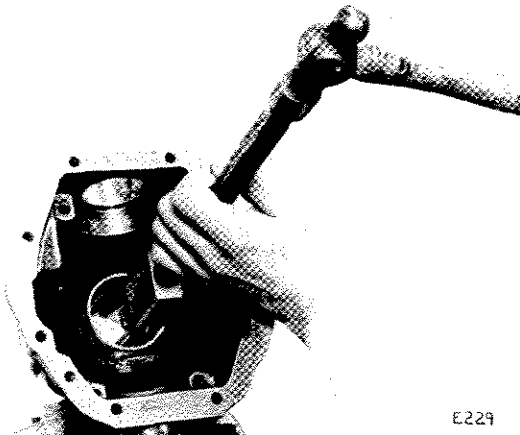

Fig. 76. Driving out the pinion bearing outer races
Drive out the seal (13) with the pinion tail bearing outer race (12) as shown in Fig. 76. In a similar manner, drive out the pinion head bearing outer race (60) and remove the shim pack (59).